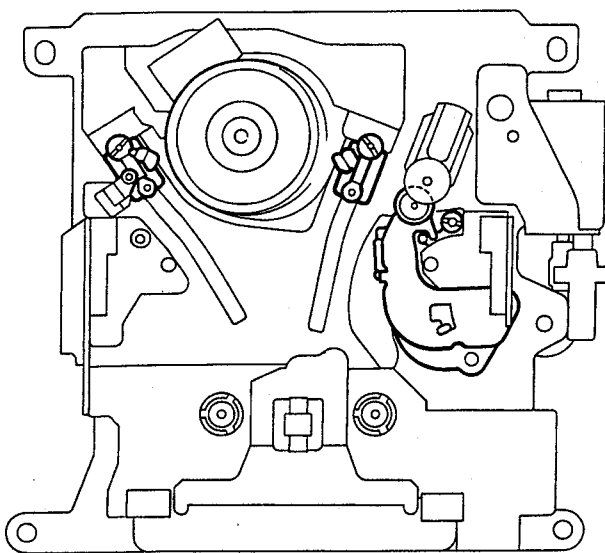

Fig. 14-3 STOP or FF/REW Mode
- ② STOP mode (Fig. 14-3)
- ④ FF/REW mode (Fig. 14-3)